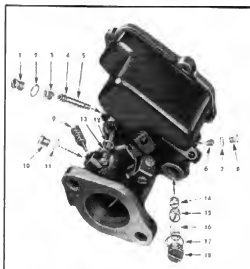

Fig. 11—Down-draft Carburetor Valves and Jets
- Assemble the copper gasket on the main nozzle, (4) Fig. 11. Hold the carburetor with the air horn down, line up the flat part of the "D" section on the nozzle with that in the primary venturi and drop the nozzle (5) into the opening. Install the nozzle screw plug (3) and tighten it securely. Tighten the three air horn screws. Install the main nozzle passage plug (1) using a new copper gasket (2).
- Install the low speed jet (13) and gasket (12) in the carburetor body, then again remove the jet and check the bearing on the top end of the jet. If there is a complete bearing around the top of the jet indicating a full seat, it may be
- Install the outlet and inlet check valves (14) and (15), Fig. 11, in the carburetor body. Then install the screen (16), passage plug (18) and gasket (17).
- Install the accelerating pump jet (6), plug (8) and gasket (7).